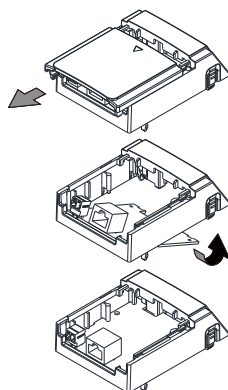

Figure 8-21
2. Assemble the option card: Detach the upper cover of the mounting box for the option card by slipping and make the terminal block and connector of the option card face upward. Fix the front end of the option card to the slots, and press it up to assemble the option card, as shown in the Figure 8-21.